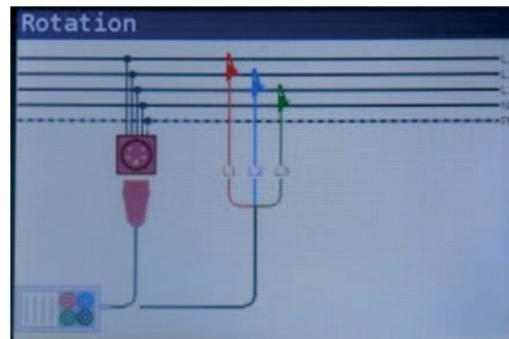

Figure 4-30: Connection of universal test cable and optional three phase cable
- Step 2** Connect test cable to the instrument and follow the connection diagram shown in figure 4.30 to test phase sequence.